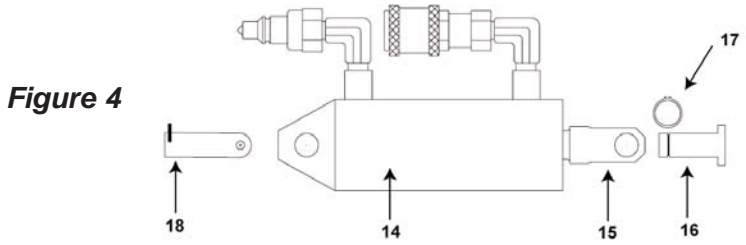
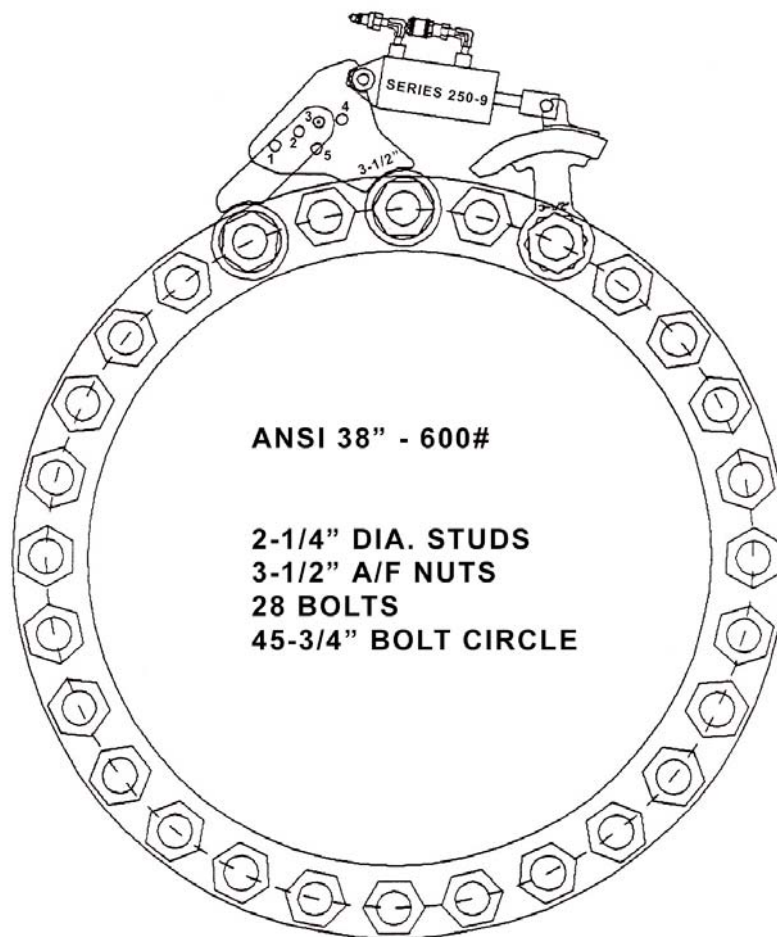

Figure 4
Figure 5
Series 250-9 Cylinder and Parts - - see figure 4
3. Use the layouts supplied with this manual for the appropriate flange design. *Figure 5* is a **SAMPLE LAYOUT**.
5. Insert the bolt (5) through the hole in the reaction leg (4) and the corresponding hole in the reaction plate (3) as shown in the layout (*figure 4* is a sample layout) for that flange and tighten the nut (6).
6. Insert the pin (7) through the back clevis (8) of the hydraulic cylinder (2) and the clevis ring (9) on the reaction plate (3).
7. Place the reaction unit (3 & 4) and the wrench head (1) on the flange in the arrangement shown in the corresponding layout (*Figure 5*) for the flange. Take note of the number of bolts between the wrench head and the ring of the reaction plate, and between the rings of the reaction plate and reaction leg.